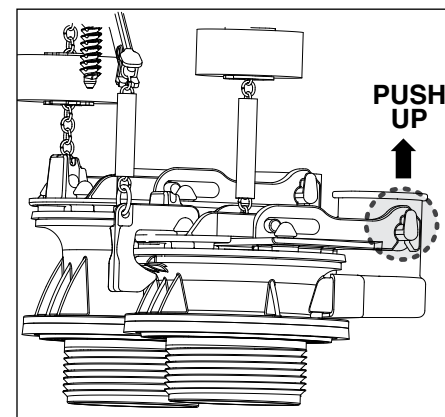

FIGURE 2
- Place fingers underneath hinge and pull up to release all 4 hinges **FIGURE 2**